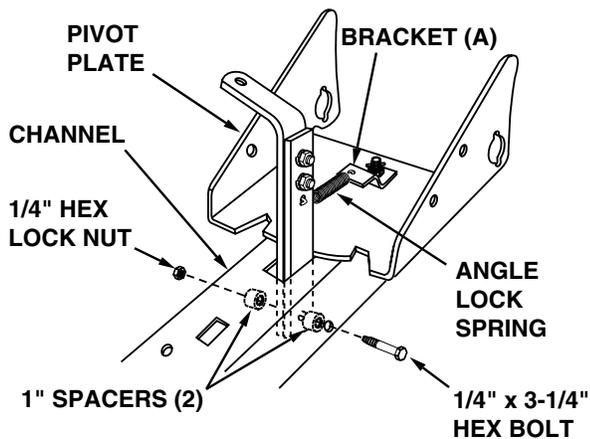

Figure 4
12. Insert the curved hook of the angle lock spring **up** through the hole in bracket (A). See figure 4.
13. Insert the angle lock bars down through the slot in the channel. Underneath the channel place spacers on both sides of the angle lock bars and insert a 1/4" x 3-1/4" hex bolt through the sides of the channel, the spacers and the angle lock bars. Secure the bolt with a 1/4" hex lock nut, tightening so that the angle lock bars still pivot freely. See figure 4.